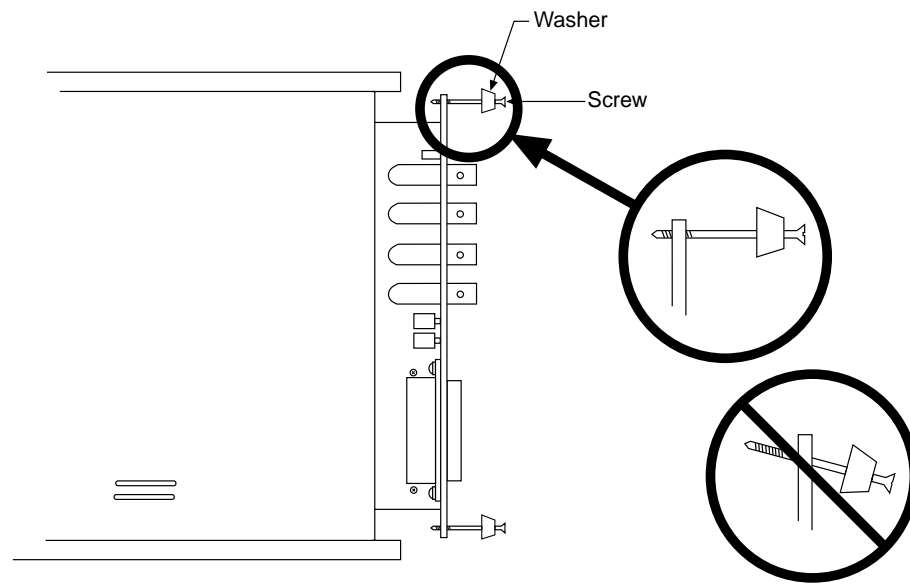

Figure 50. Module Installation
1. Rotate the two locking screws counterclockwise until the threads on the screws engage those of the module panel. *See Figure 50.* By doing this, the screws will be perfectly perpendicular to the module panel and will align perfectly when the module is inserted.